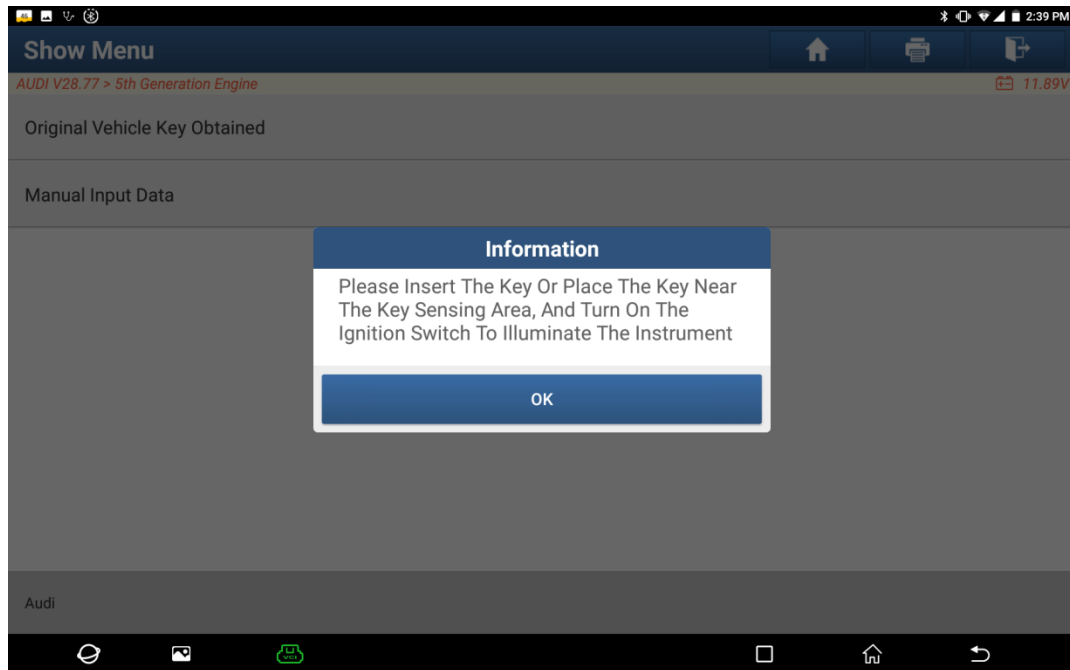

Figure 12
11. Click **【Edit2】** to obtain the key from original vehicle, as shown in Figure 12, insert the key into vehicle and illuminate the instrument;